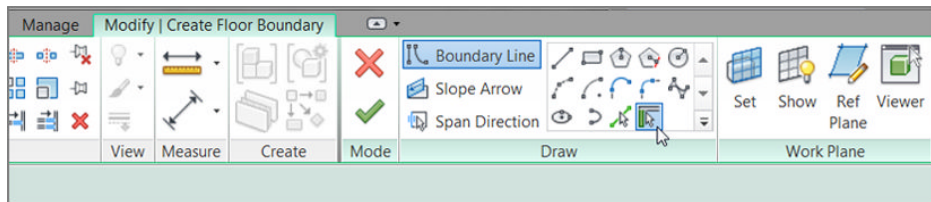

FIGURE 6.8 : Picking walls ensures that that edge of your slab will move if the wall moves.
The best way to add a slab is to use the Pick Walls button as much as possible (see Figure 6.8). In doing so, you tell Revit that this edge of slab needs to move if this wall moves. Pick Walls is the default Draw option.
1. In the Modify | Create Floor Boundary tab, click the Pick Walls button, as shown in Figure 6.8, if it isn't already picked.